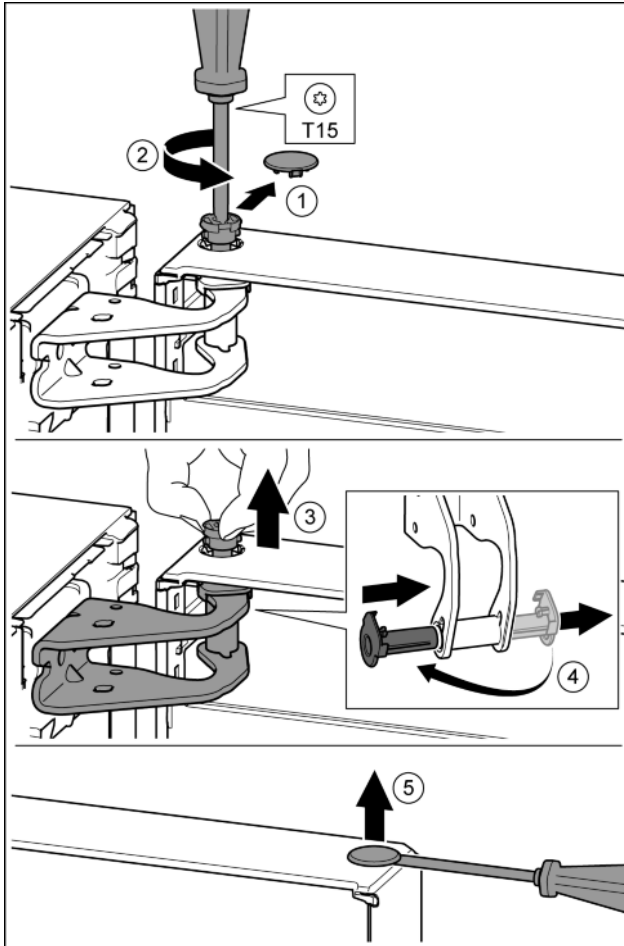

Fig. 8
- ▶ Carefully remove the safety cover. Fig. 8 (1)
- ▶ Undo the bolt a little with a T15 screwdriver. Fig. 8 (2)
- ▶ Hold the door and remove pins with your fingers. Fig. 8 (3)
- ▶ Pull the bearing bush out of the guide. Insert from the other side and click into place. Fig. 8 (4)
- ▶ Carefully lift the plugs out of the door bearing bush with a slotted screwdriver and remove. Fig. 8 (5)